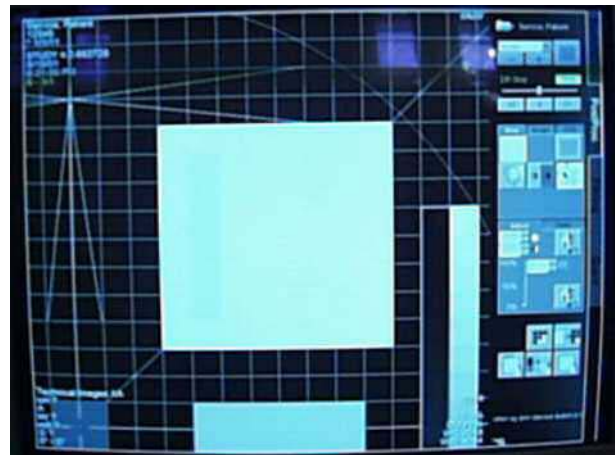

Fig. 20: Image1
- Select the test pattern (Fig. 20 / p. 29).
- Select zoom, drag the white area to the center of the screen (Fig. 20 / p. 29).